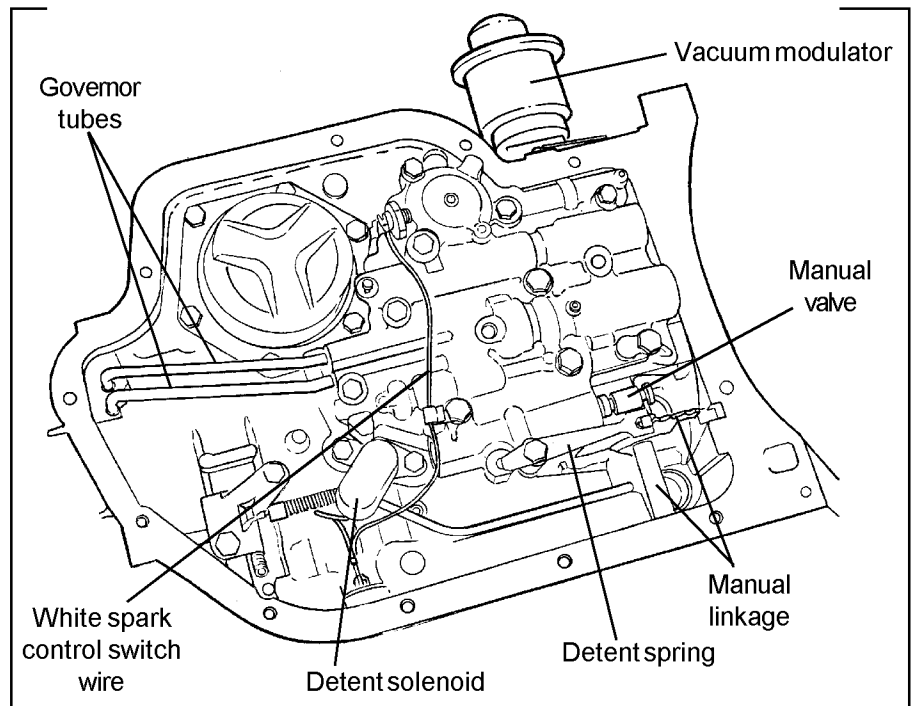

Figure 4
STEP 3. Observe the location of the following (See Fig. 4) Manual linkage, detent spring with roller and the way linkage engages the manual valve in the valve body, governor tubes and their outing, detent solenoid and its wire onnector, white spark control switch wire and routing of the wire.
STEP 4. There are (3) 1/4-20 and (8) 5/16-18 bolts holding the valve body. remove all but one valve body bolt and
STEP 14. Install all the valve body bolts **FINGER TIGHT**. Make sure the detent spring is in position and riding on the internal shift lever (**See fig. 4**). Make sure the manual valve is engaged with the pin on the internal shift lever. Tighten all valve body and solenoid bolts to 8-10 lb.ft. (11-13.6 Nm). Route the white spark control wire and connect to pressure switch on valve body. Check operation of manual valve by running range selector through all gear positions.